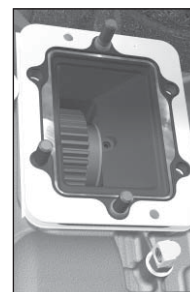

Figure 76a
6. Install the gasket supplied with the PTO over the studs and against the geared adapter (**Fig. 76a**).